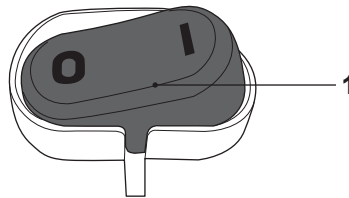

Fig. 15
- > Make sure the on / off switch (1) is in the off position O (Fig. 15).